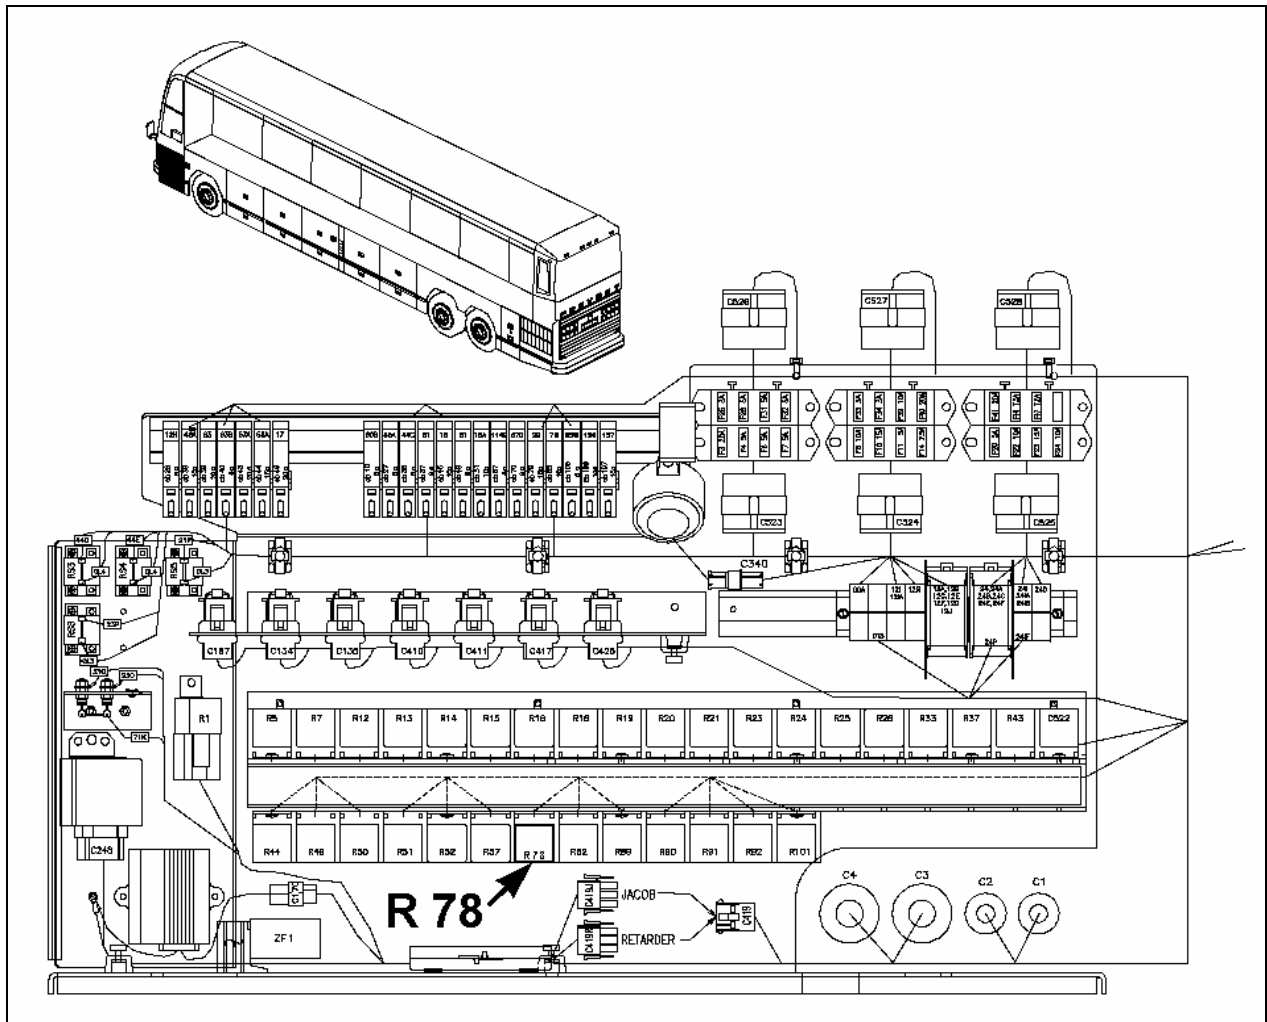

FIGURE 1: LOCATION OF RELAY R78 ON FRONT JUNCTION PANEL
1. Locate relay R78 on the front junction panel (Refer to figure 1).